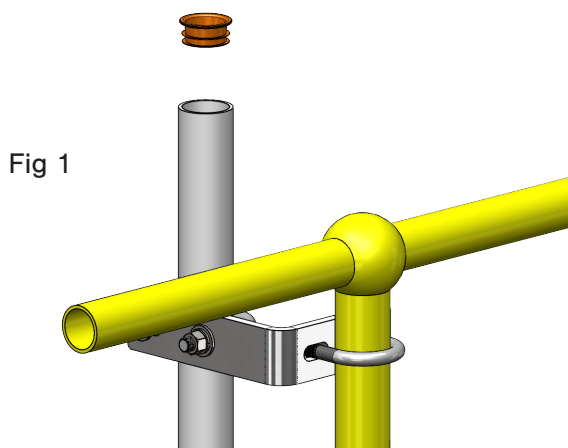

Fig 1
- Fit orange plastic insert into the cut end of the pole base. (Fig 1)